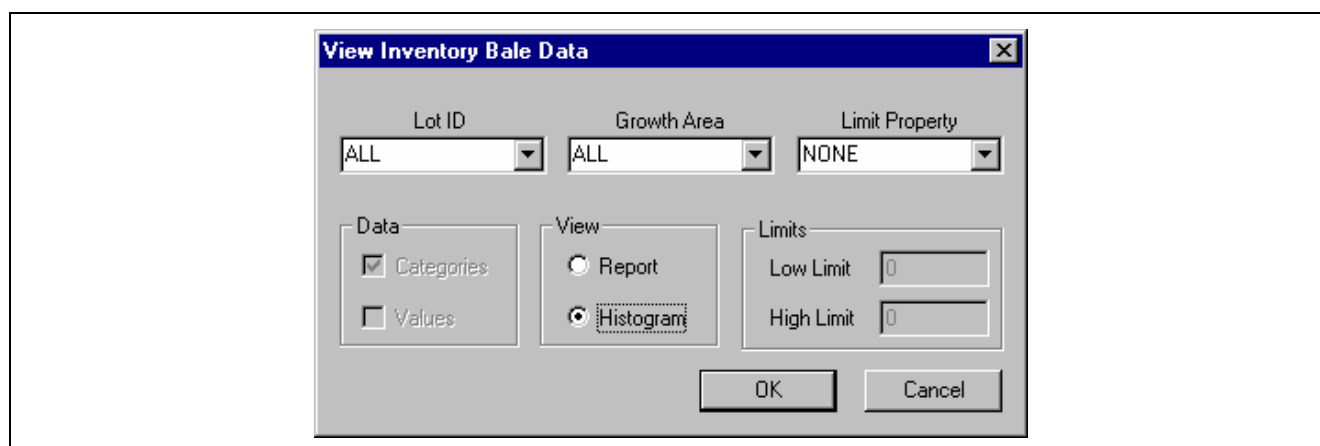
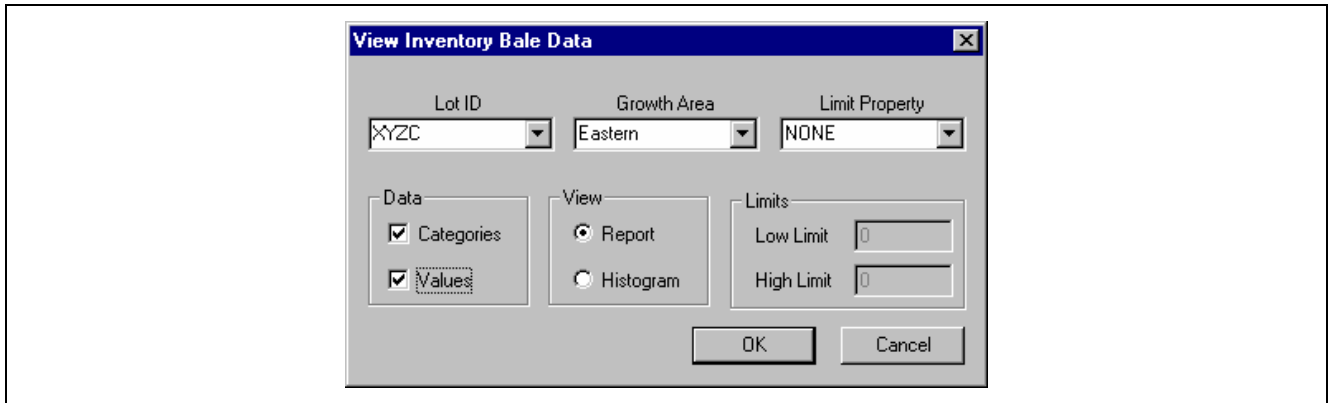

Fig. 6-79 View Inventory Bale Data Screen
Fig. 6-84 View Inventory Bale Data Screen
25.1 The View Inventory Bale Data window of Fig. 6-79 appears. At Lot ID and Growth Area use the down arrows to select ALL and ALL respectively. Likewise NONE should be selected for Limit Property. Under View, select Histogram.
As seen in the window of Fig. 6-79, data can be viewed by Categories or by Value. Reports can be by Report (listing data) or by Histogram. Portions of data can be viewed by entering Low and High Limits after selecting a Property in the pull down menu at Limit Property.
26.0 In the Bale Manager window of Fig. 6-58, select View then Inventory in the drop down menu. In the View Inventory Bale Data window of Fig. 6-79, use the down arrow to select XYZC under Lot ID and select Eastern under Growth Area. None should be selected at Limit Property. Under Data select Categories and also Values. Under View select Report. Low and High Limits should both be 0 as seen in Fig. 6-84.